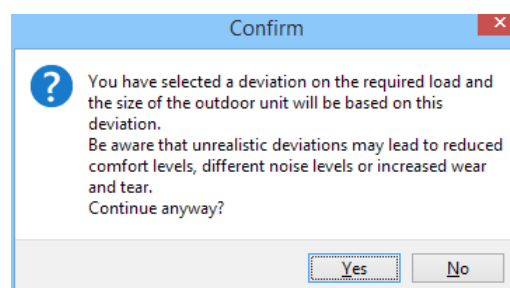

Figure 135: Caution when reducing operational loads
*You must reduce operational loads with utmost caution and make sure you fully understand the impact.* To remind you about the risks, VRV\_Xpress gives a message each time you close the outdoor unit edit window, as shown in Figure 135: